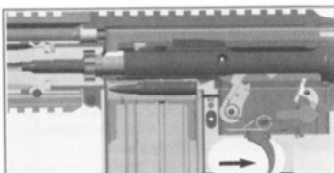

Fig. 91
6. UNLOCKING: As the bolt carrier moves to the rear, the bolt cam pin follows the path of the cam track (located on the bolt carrier). This action causes the cam pin and bolt assembly to rotate at the same time until the locking lugs of the bolt are no longer behind the locking lugs of the barrel extension (Fig. 91).